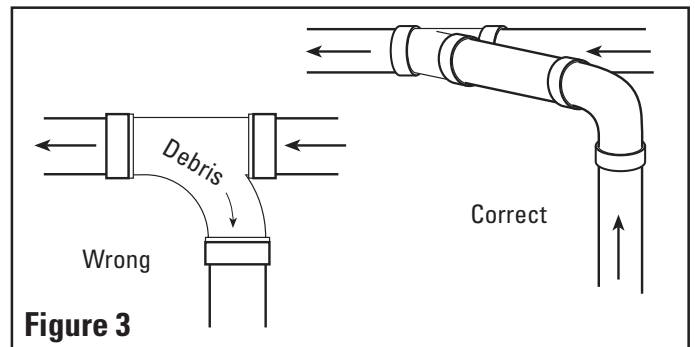

Figure 3
- Avoid gravity drops in the branch line. A branch line located directly below an overhead trunk line will accumulate dirt due to the effects of gravity. The result will be a pile of debris at the base of the inlet valve each time it is opened (**Figure 3**).